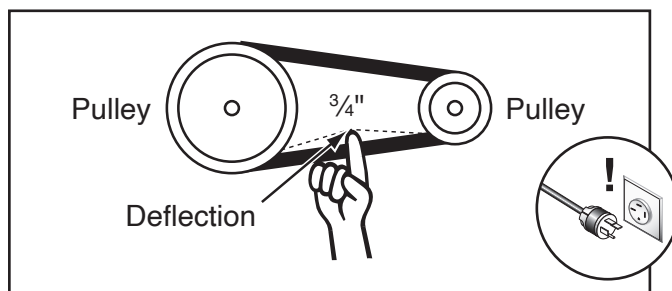

Figure 3. Checking for correct V-belt tension.
4. Push center of each V-belt using moderate force (see **Figure 3**). When tensioned correctly, deflection should be about $\frac{3}{4}$ ".